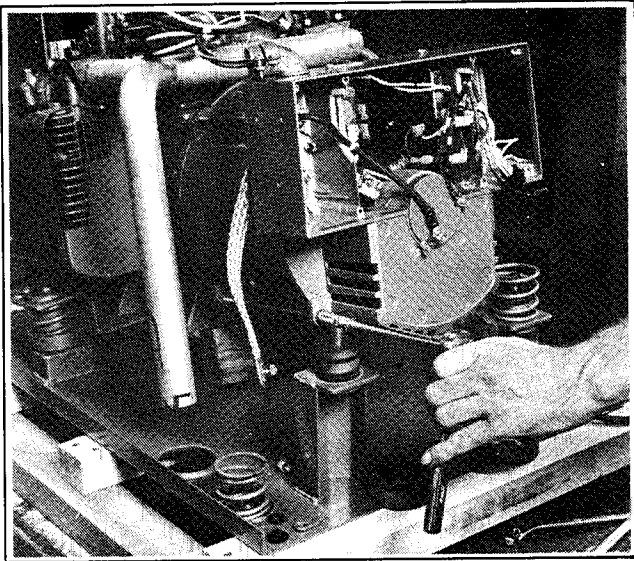

Figure 8-9. Removing Overbolts
8. Disassemble vibro-mount rubber caps and springs to remove four over-bolts from end bracket, see Figure 8-9.